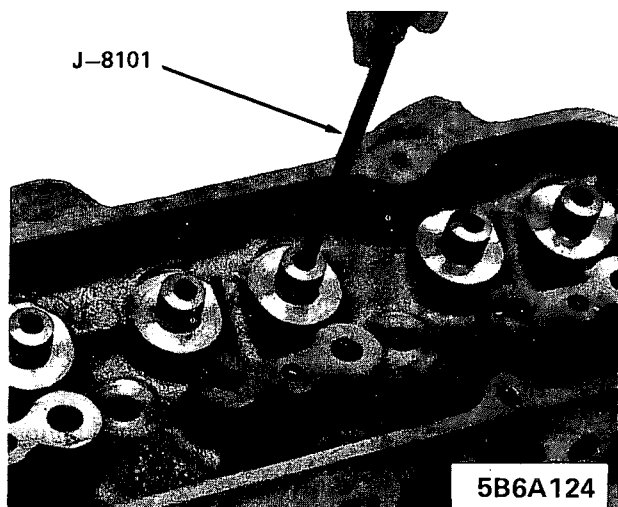

Figure 6A-124 - Cleaning Valve Guide
4. Clean valve guides thoroughly, using valve guide cleaner J-8101. Figure 6A-124.